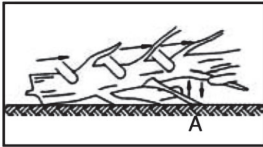

Fig. 3
Limbing a tree is the process of removing the branches from a fallen tree. Do not remove supporting limbs (A) until after the log is bucked (cut) into lengths (Fig. 3). Branches under tension should be cut from the bottom up to avoid binding the chain saw.